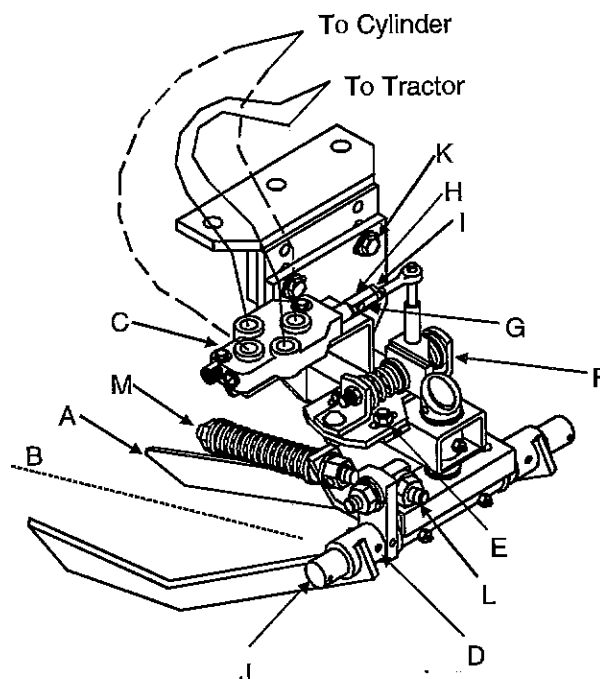

Figure 20. Row Finder.
The optional row finder helps keep your harvester on the rows. The feeler arms (Figure 20-A) rest astride the row (B) and follow the line of beets - sensing any changes in the direction of the row or the position of the harvester. Sideward movement of the feeler arms actuates the hydraulic valve (C), which controls oil flow to the row finder steering cylinder.
For this adjustment, refer to Figure 20, page 25. The feeler arms should be set so the largest beets will just pass through the opening, between the tips, while just touching each arm. To adjust the arms, remove the spring pins (D), set the arms to the appropriate width, then install the spring pins.
Refer to Figure 20, page 25. The horizontal shaft (J) in the row finder must be parallel with the front of the harvester frame to function accurately. Remove pin (G) and loosen the nuts (E), then slide the plate (F) until the shaft is parallel with the frame. Tighten the nuts.
To change the row finder height by more than 1", remove the four (4) bolts (Figure 20-K, page 25) attaching the row finder frame to the support plate. Bolt the row finder to the holes that provide the desired operating height. Tighten the bolts.
NOTE: For less than 1" height adjustments, raise or lower the feeler arms by adjusting nuts (Figure 20-L).
The down pressure of the row finder is factory set at a spring length of 4-1/4". If the beet crowns are below the ground surface, adjust down pressure so the row finder arms penetrate the soil. To increase the down pressure, turn lock nut (Figure 20-M, page 25) to compress the spring.